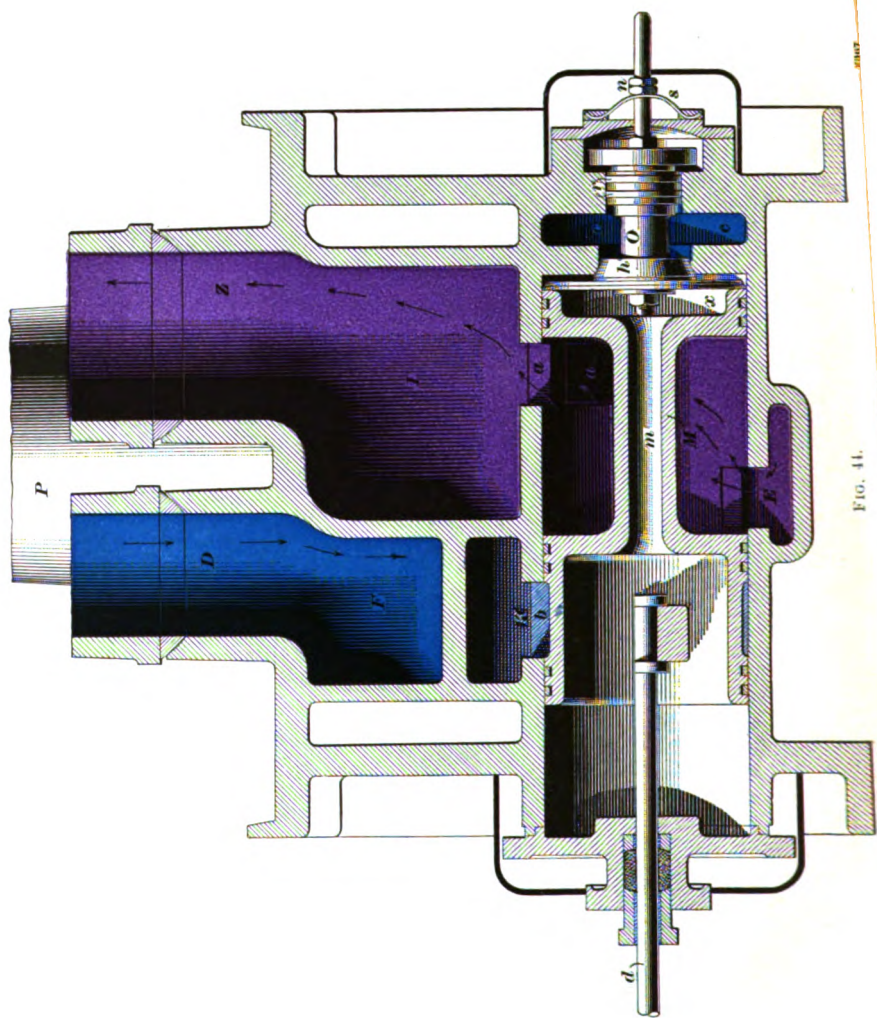

FIG. 44.
**96. Working Compound.**—When the intercepting valve is moved into the compound position, Fig. 44, the port *b* leading into the emergency exhaust passage *K* is covered by the valve, and the high-pressure exhaust port *E* is connected with the receiver through the cavity *M* of the valve and ports *a*. Also, the reducing valve *O* is held closed. Therefore, when the throttle is open with the intercepting valve in this position, the exhaust steam from the high-pressure cylinder passes through the intercepting valve and into the receiver, as indicated by the arrows,
A leak by the packing rings on the large head of the intercepting valve *M*, when in compound position, Fig. 44, will allow steam to flow by and condense in the chamber behind it if the vent (not shown in cut) is not kept open. The result of this is that when the engine is changed to simple the water will pass through the hollow *m* of the valve *M*, and will be thrown out with the exhaust from the low-pressure side; it will pass into the low-pressure steam chest with the live steam coming through the reducing valve *O*. The construction and arrangement of the intercepting and reducing valves of this type of compound give very little chance for trouble from defective packing rings or other leaks.